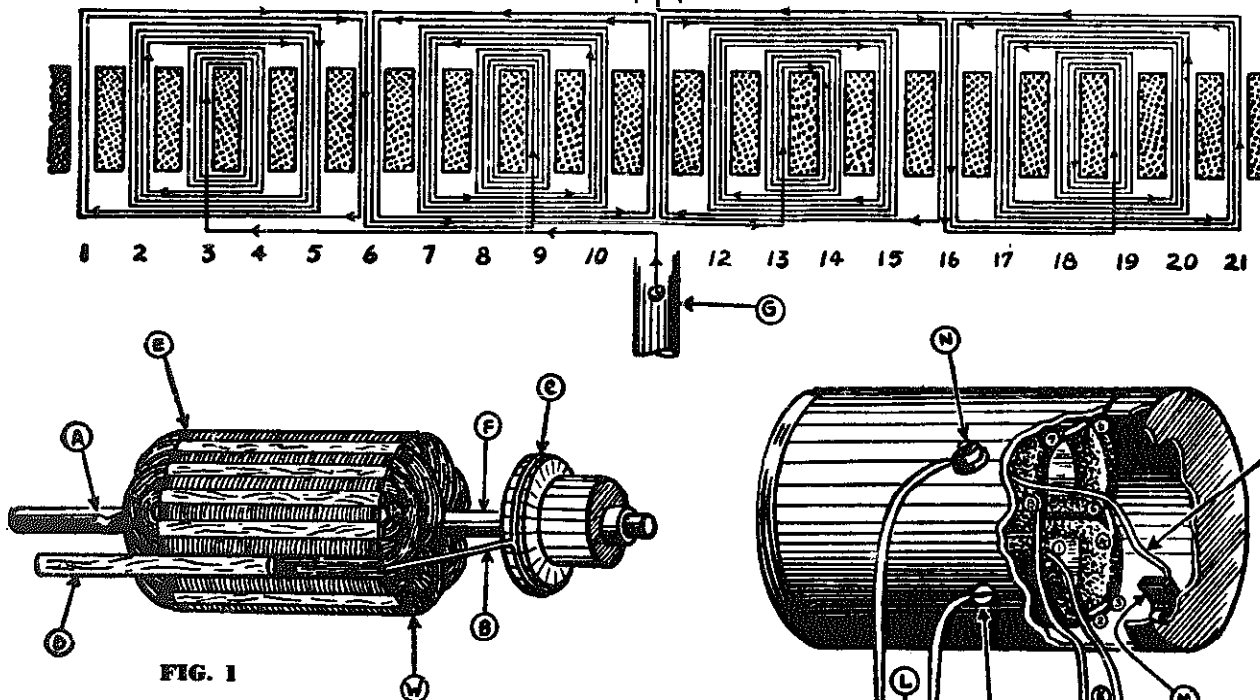

FIG. 1
First secure an old model "T" Ford generator that has good field coils (field coils are the stationary coils), a good commutator and good bearings. It is not necessary to get a new generator for this change. Remove the gear and take generator apart. By using a screwdriver carefully you can pry the wires out of commutator risers (be sure not to use too much force which will harm the commutator), (J) Fig. 2, then push out all the wedges that are now holding windings in place, (D) Fig. 1. After wedges are pushed out remove all wire and clean slots thoroughly. Next take a piece of No. 14 or No. 16 copper wire and wrap it around the commutator risers, (C) Fig. 1 and (I) Fig. 2, then solder each segment of commutator to this wire; in other words, fasten all segments of the commutator together so commutator will function as collector ring. A large soldering iron will be needed for this operation in order to sweat the solder to the heavy copper segments. You may use a blow torch if one is handy; it would perhaps be a little faster. If you have access to a lathe, then a better way of doing this operation will be to cut a groove around and into the risers and place the copper wire into the groove, then solder.
You will now need about 1 pound of No. 25 heavy Formvar magnet wire. Wrap several turns around the armature shaft on gear end or end next to you; this will later be soldered to shaft. (A) Fig. 1. Start winding in slots numbers 3 and 4 as shown in Fig. 2 by placing in 80 turns. Be sure to pack the wires in tightly and carefully using a blunt wooden stick—use this packing stick about every 10 or 15 turns in order that all turns will fit in properly.
Trim off insulation paper flush with laminations and fold down into slots, then force a wooden wedge into each slot as (D) Fig. 1. These wedges hold windings in place.
If you desire to test the winding for ground use an old radio head phone and dry cell. Connect one wire from phone to armature shaft, connect other phone wire to one side of battery and other side of battery to winding. If you hear a click when contact is made then your winding is grounded, if you do not hear a click then winding is O. K. If grounded then start unwinding until ground is located, insulate, then rewind. Now connect end wire from slot 21 to commutator riser and solder. (B) Fig. 1 and (H) Fig. 3. Solder the starting end of winding to shaft at point close to windings, (A) Fig. 1 and (G) Fig. 2, and be careful not to damage windings with soldering iron.
(A)—14" length of 1 1/2" (inside measurement) iron pipe to which the four tower legs are bolted. Build tower according to dimensions on Fig. 1. (B)—15" length of 1 1/2" (outside measurement) iron pipe which slips 8" down into pipe (A) inside of which it rotates. Plates (F) and (G) are 4" lengths of 2" by 1/2" strap iron which support vane arms on pipe (B). The holes in (F) and (G) through which pipe (B) passes should fit the pipe so snugly that the plates have to be driven onto the pipe. In fastening the vane arms to (F) and (G) use flat head bolts and countersink them. Build vane support, as illustrated of 3/4" angle iron. Side of upper vane arm (S) extended, bolts to pipe (B) as shown. (H) and (H2) of 2" strap iron, support generator and assembly on pipe (B). The holes in the ends of (H) through which pipe (B) passes should be just large enough so that (H) can swing freely on (B) with no side play. (E)—A piece of 3/4" strap iron which is bent up at (X) Fig. 4, to catch on upper vane arm (S), and stop the generator assembly at the proper point when it swings into operating position. (I)—1/2" copper twist cable fastens to the outer end of (E), passes over pulleys and down through pipes (B) and (A). Equip with small swivel below bottom of pipe (A). (D)—3/4" strap iron brace on generator
For making a 6-foot propeller for the 6-volt standard generators: Shorten each 7" length to 6"—shorten the 3" length to 2 1/4"—then shorten the 4" length to 3 1/4". Use regular 3/4" stock 4 1/2" wide. Finished tip to be 2 1/4" wide. Next change figure 1 1/2" to 1 1/4"; change 1 1/4" to 1 1/8"; 1 1/8" to 1 1/16"; then change 1 1/16" to 1/16"; 1 1/16" to 1/32"; 1 1/32" to 1/64" and 1/64" to 1/128". The remaining figures, which give the pitch, remain the same.